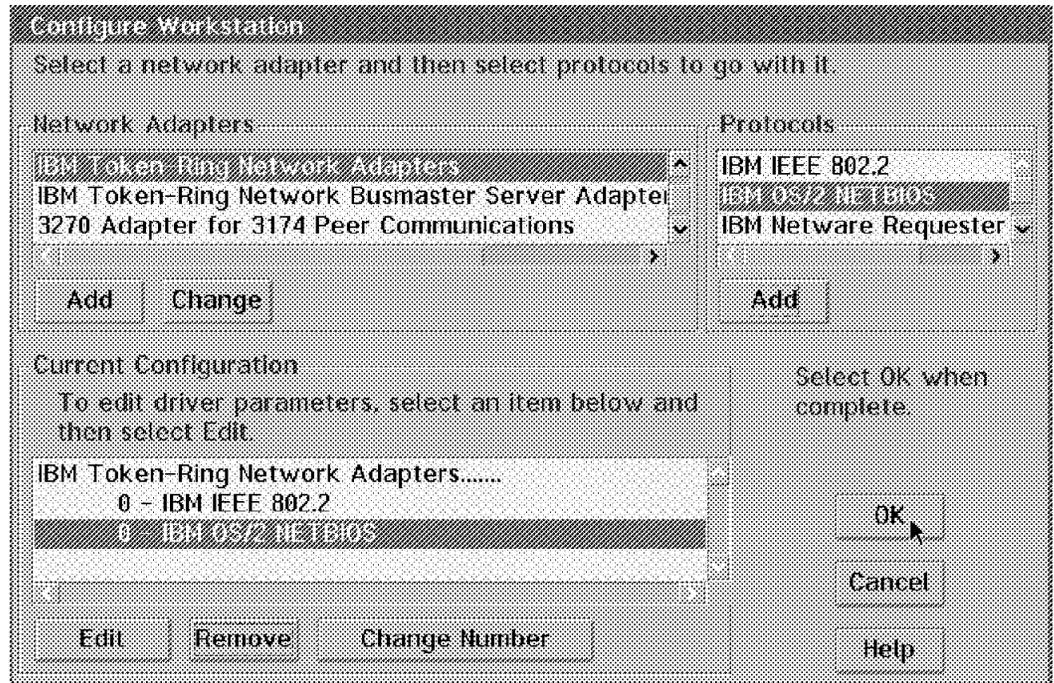

Figure 67. Configuring Your Token-Ring LAN Adapter for SNA
- Step 5. The panel shown in Figure 67 on page 121 appears.